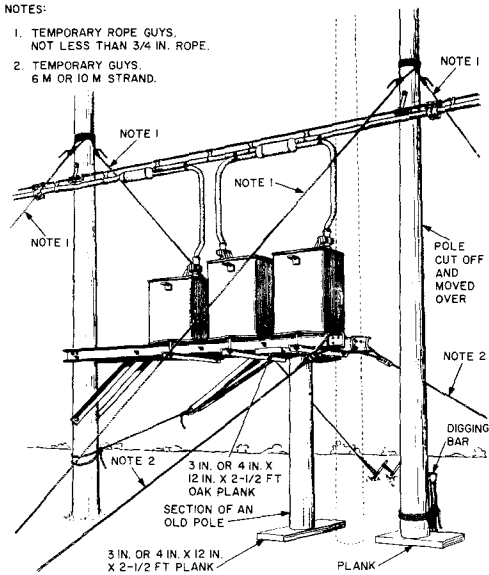

Fig. 13—Strut and Pole Arrangement
- (i) Cut the pole off and move it over (Fig. 13), pull the butt, and place the new pole as described in Part 3.